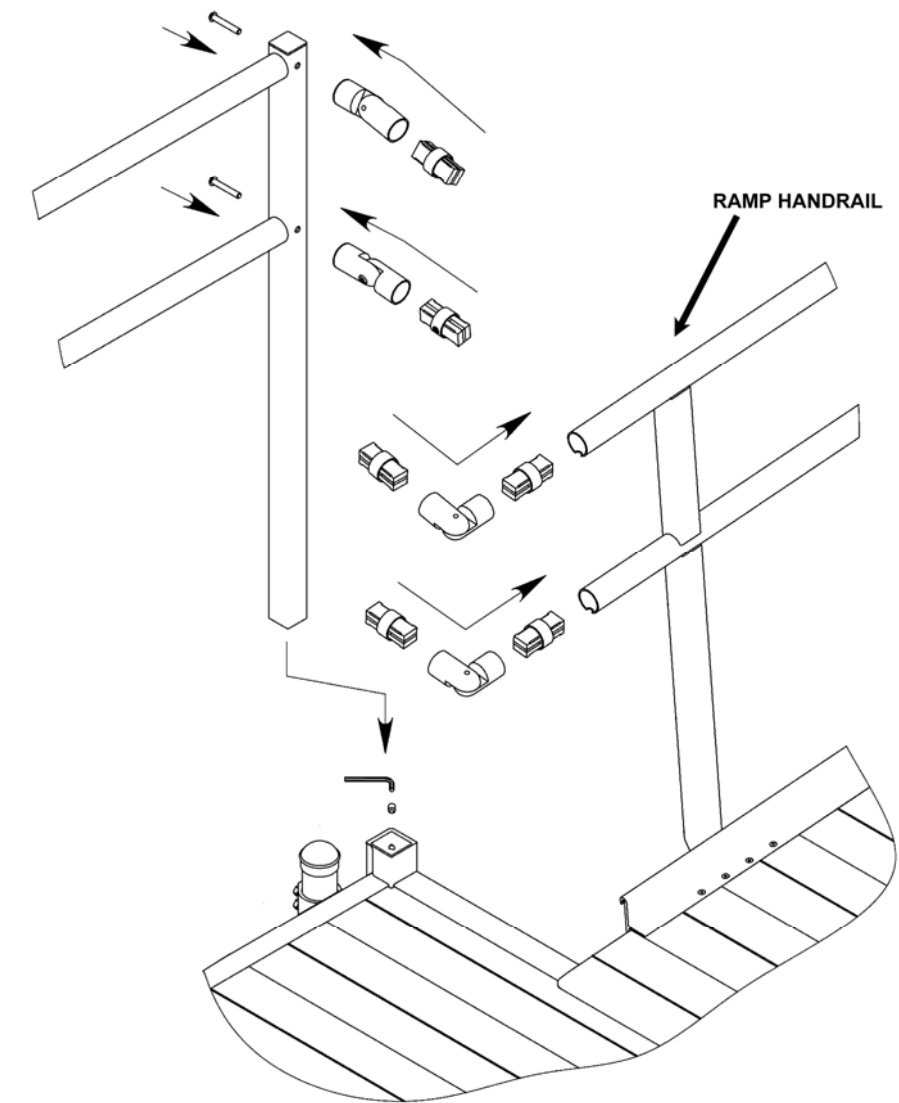

FIG. 36
- iv) Insert ring joiner/adjustable elbow assembly into tube end on ramp handrail and position both assemblies until they are aligned (FIG. 36).